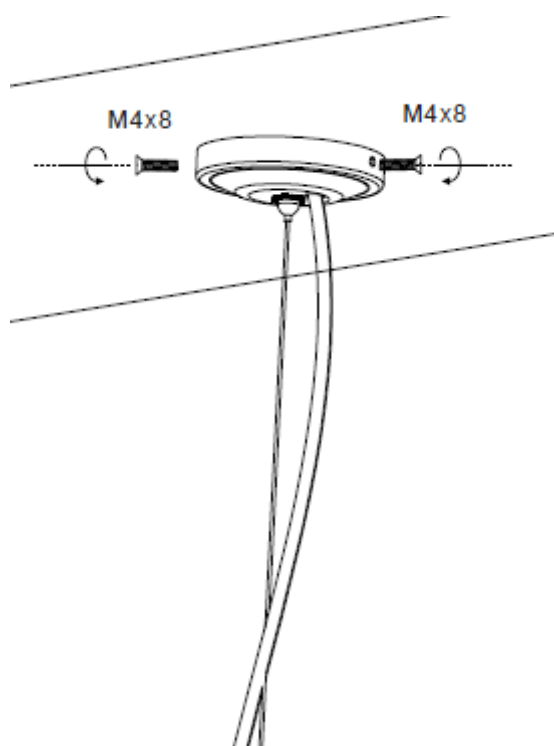

FIG. 3
- Fasten the ceiling cup to the mounting plate with two M4x8 screws (Fig. 3)